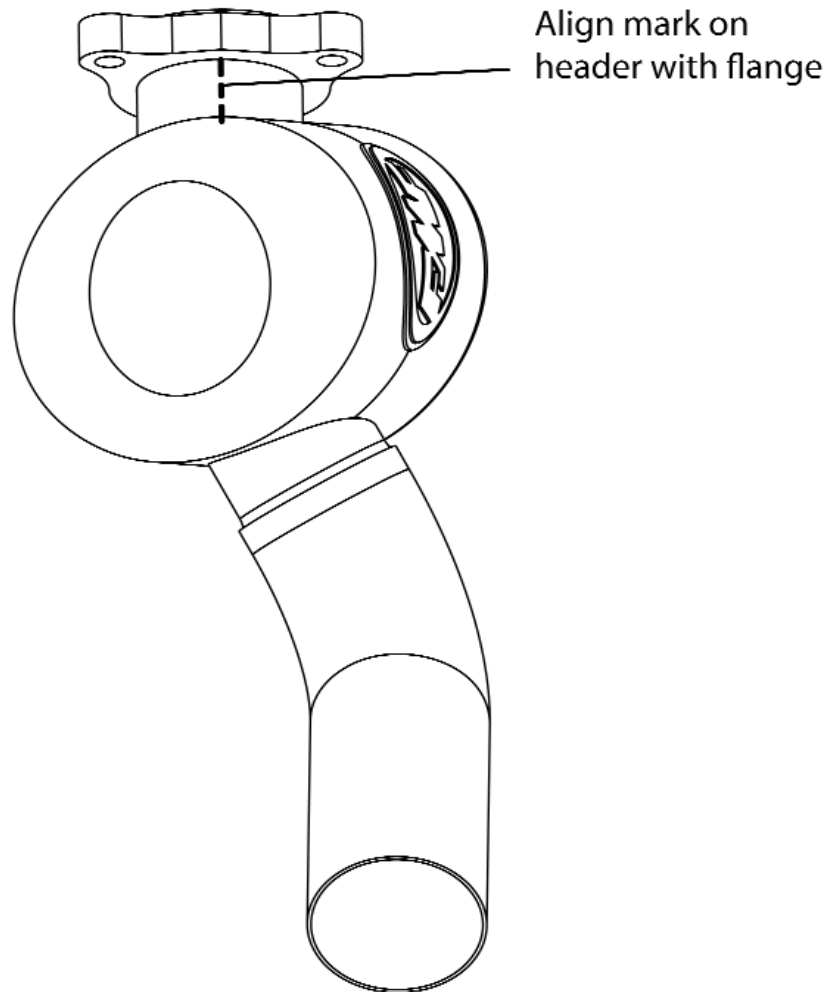

Fig. 1
17. Install the three (3) header nuts removed in step #9; leave loose at this time. Rotate the header so the indicator mark aligns with the machined flat spot on the header flange (Fig. 1).